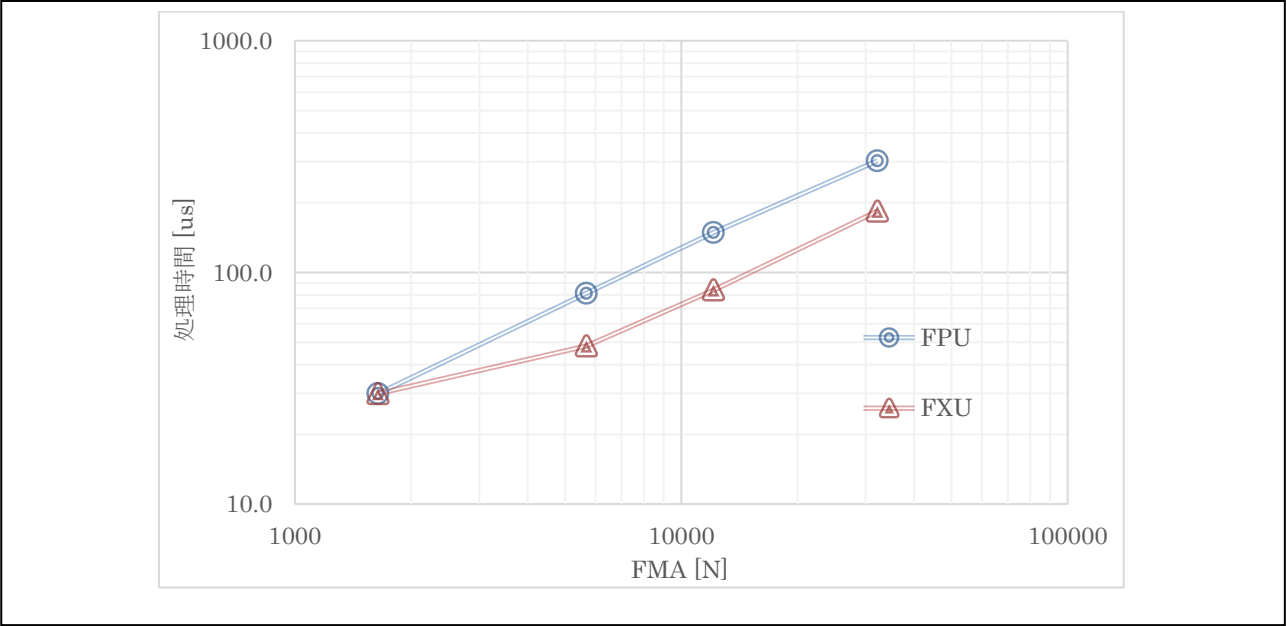

Figure 4-1 Processing Time Measurement Result Graph
Table 4-1 shows the processing time when using FPU and FXU. Although, Figure 4-1 shows the graph plotted with the horizontal axis as the number of the Fused Multiply-add). In this measurement, to check the dependency between the number of Fused Multiply-add operations and the processing time, the measurement of the pattern (D) with the changed number of units is also added.